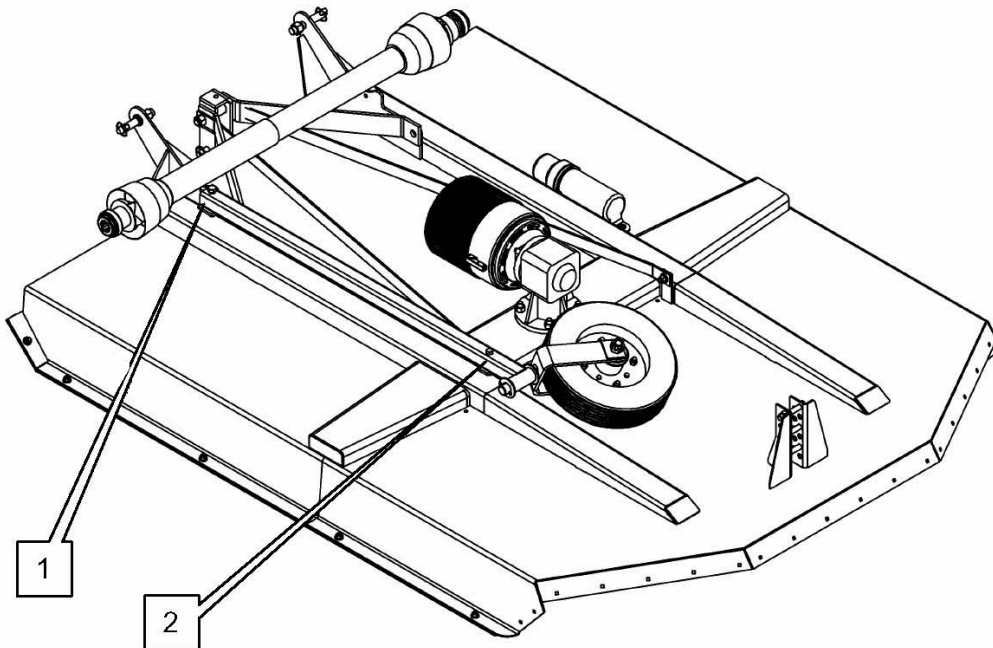
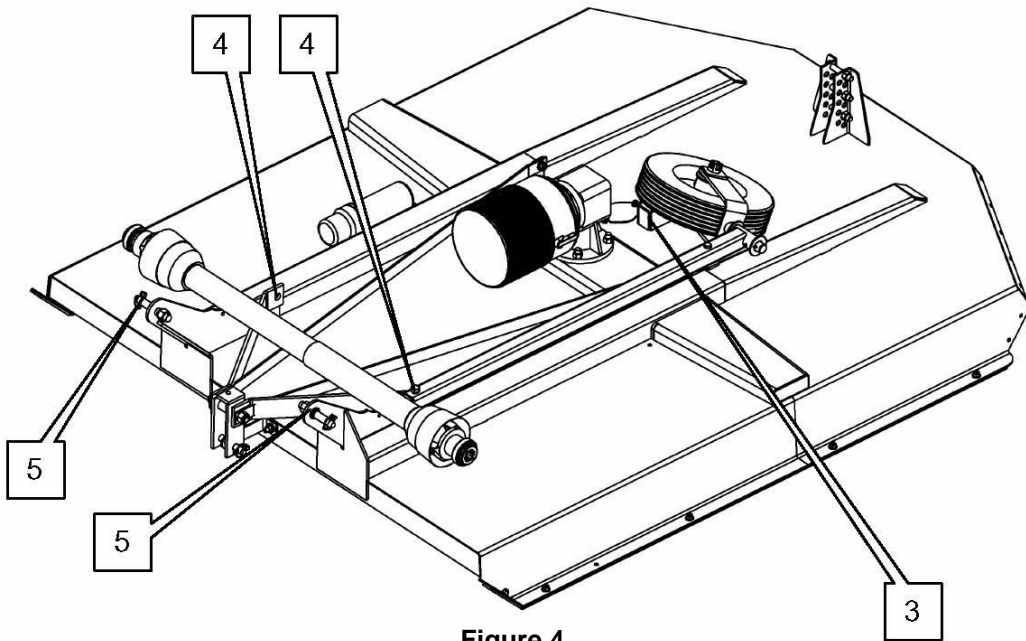
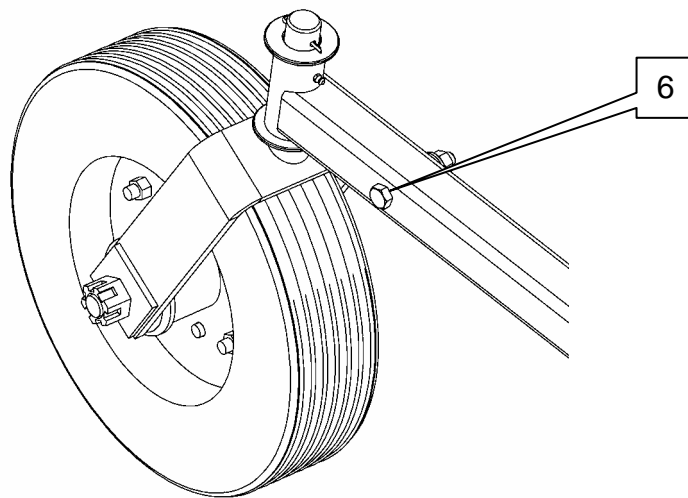

Figure 3
Figure 4
Figure 5
- Unbolt the wheel beam from the two transport brackets securing the wheel beam to the deck at locations indicated (1) & (2) (Fig.3).
- Assemble the wheel beam in its working position on the deck by fastening bolt (1) (Fig.3) to bracket (3) on the deck (Fig.4).
- Fasten nut and bolt (2) (Fig.3) into wheel beam assembly location (6) (Fig.5).
- Unfasten cable ties holding lower links arms in place, positions (4) (Fig.4) and secure lower links in place using lower link pins in positions (5) (Fig.4)